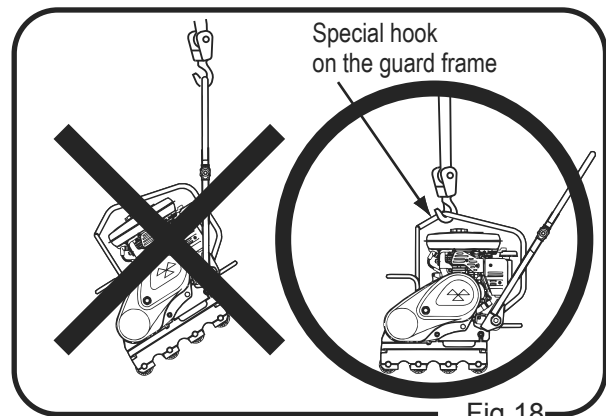

Fig.18
- 3 When lifting, always use a special hook on the guard frame. (Fig. 18)